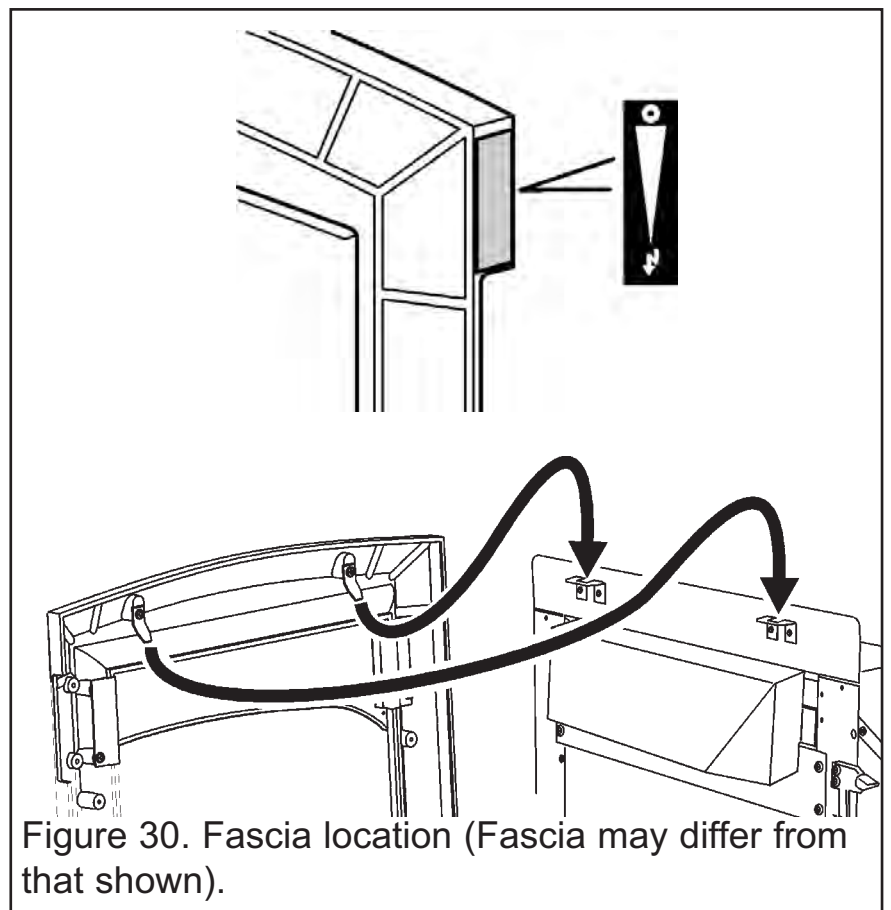

Figure 30. Fascia location (Fascia may differ from that shown).
2. Supplied with the fire is a self adhesive control position label. Peel the backing from the label and place as in figure 30.
3. Place the fascia against the fireplace front surface so that the two retaining plates at the back of the fascia are above the two upper retaining brackets at the top of the convection box. Lower the fascia making sure that the rear retaining plates locate fully into the retaining brackets on the convection box (See figure 30). If the inlet pipe runs along the front of the fireplace, the bottom